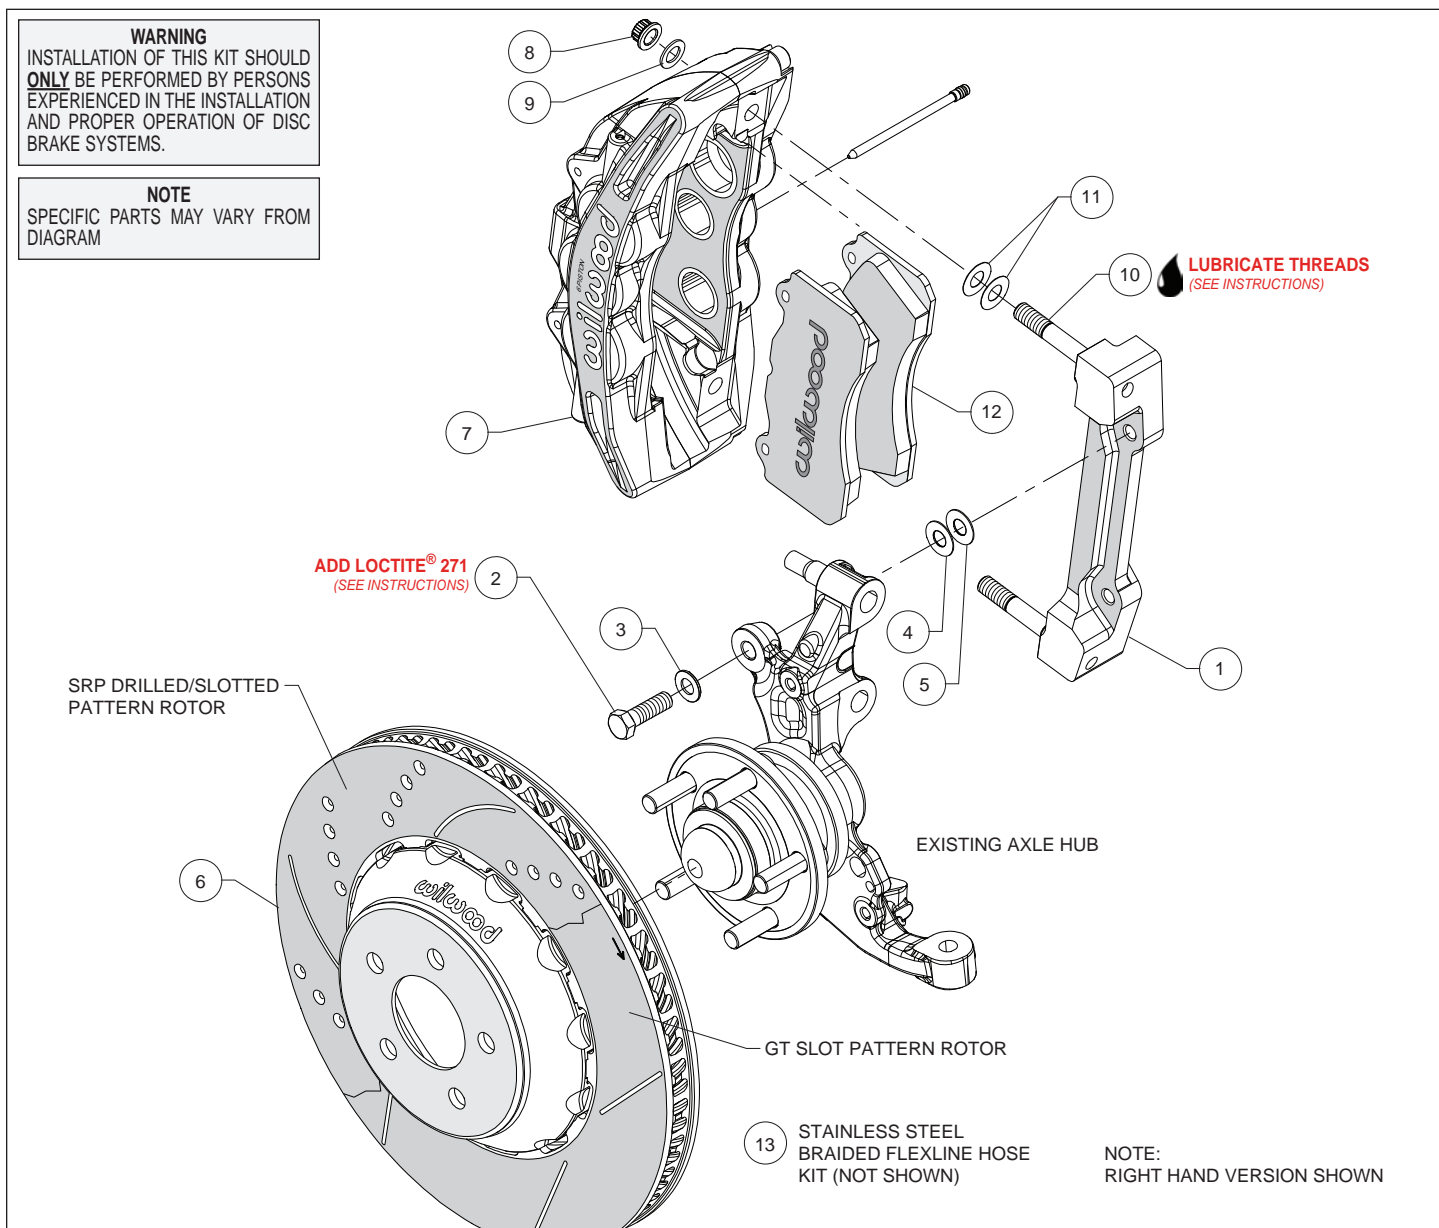

Figure 1. Typical Installation Configuration
Assembly Instructions (numbers in parenthesis refer to the parts list and Figure 1 on the preceding pages):
- The caliper mount bracket (1) should initially be installed with clean, dry threads on the mounting bolts. Orient the bracket, as shown in Figure 1 and Photo 1, and install using bolts (2) and washers (3). Initially place one .033" thick shim (4) on each bolt between the bracket and upright, Figure 1. Temporarily tighten the mounting bolts. **NOTE:** *The bracket must fit squarely against the mount bosses on the upright.* Inspect for interference from casting irregularities, machining ridges, burrs, etc. Later, after the caliper alignment has been checked, the mount bolts will be secured using red *Loctite*[®] 271.
- NOTE:** *This kit contains distinct right and left hand calipers that must be mounted in a specific direction, as described below.* Lubricate the caliper mounting studs (10) with lightweight oil. Initially place two .015" thick shims (11) on each stud between the caliper and the bracket, as shown in Figure 1 and Photo 3. Mount the caliper (7) onto the bracket (1) using lock nuts (8) and washers (9), Figure 1. Temporarily tighten the lock nuts. Ensure that the caliper is mounted so the largest pistons are at the rotor exit end of the caliper, in relation to the direction of the rotor. View the rotor through the top opening of the caliper. The rotor should be centered in the caliper, Photo 4. If not, adjust by adding or subtracting shims (4 and/or 5) between the bracket and the upright. Always use the same amount of shims on each of the two mounting bolts. Once the caliper alignment is correct, remove the bracket mounting bolts (2) one at a time, apply red *Loctite*[®] 271 to the threads, and torque to 60 ft-lbs.
- Remove the two pad retaining pins from the caliper (7) by pushing out the pins from the tapered end using a blunt instrument. Insert the brake pads (12) into the caliper from the bottom, Figure 1 and Photo 5. With the friction material facing the rotor, secure the brake pads in place with the pad retaining pins, Photo 6. Reinstall the caliper onto the caliper mounting bracket and temporarily tighten the lock nuts. Check that the top of the brake pad is flush with the outside diameter of the rotor, Photo 7. If not, adjust by adding or subtracting shims (11) between the caliper and the bracket. After the caliper pad height is set, torque the caliper lock nuts (8) to 65 ft-lb.